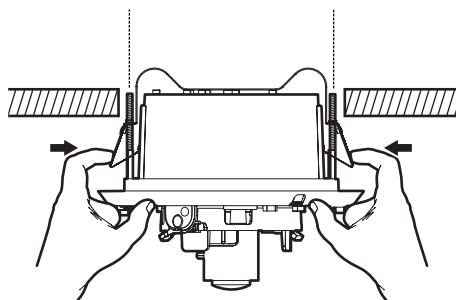

Figure 6. In-Ceiling Installation
- (1) Install the back box by compressing the spring clips and pushing the back box through the hole (refer to Figure 6).
- (2) Tighten the machine screws completely to secure the back box to the ceiling.